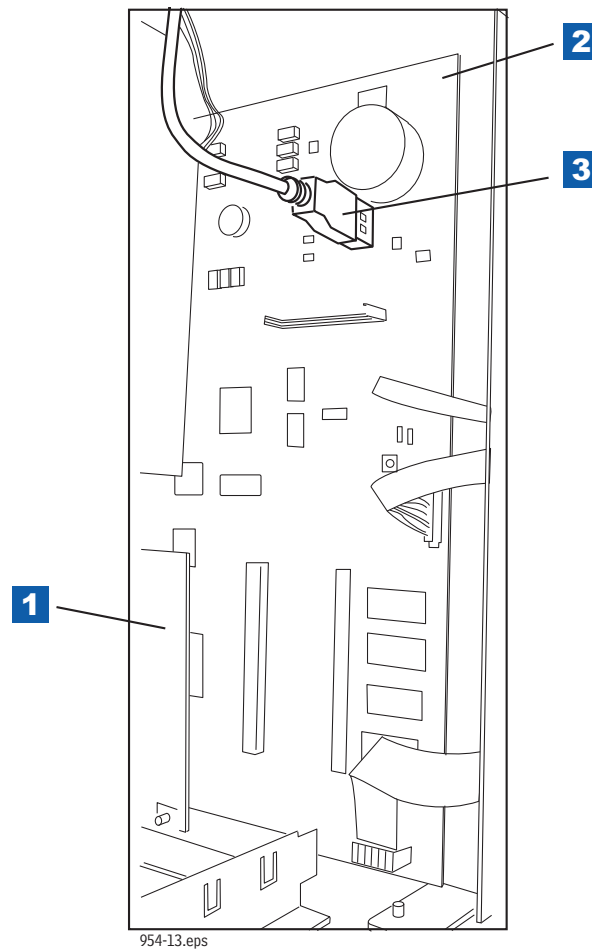

Figure 9. Locating Printer's USB connector
6. Disconnect the Printer's USB cable from its connector on the CPU board and insert the USB Adapter into the CPU USB connector as shown in Figure 9 below.
LEGEND FOR NUMBERED BOXES IN Figure 9